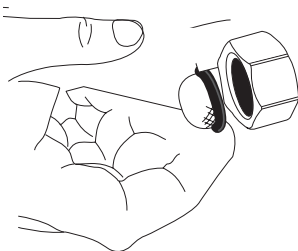

Figure 5-8
5. Verify the filter screen is in the inlet of the water tank. Only applies to the CW3600 unit. See Figure 5-8.